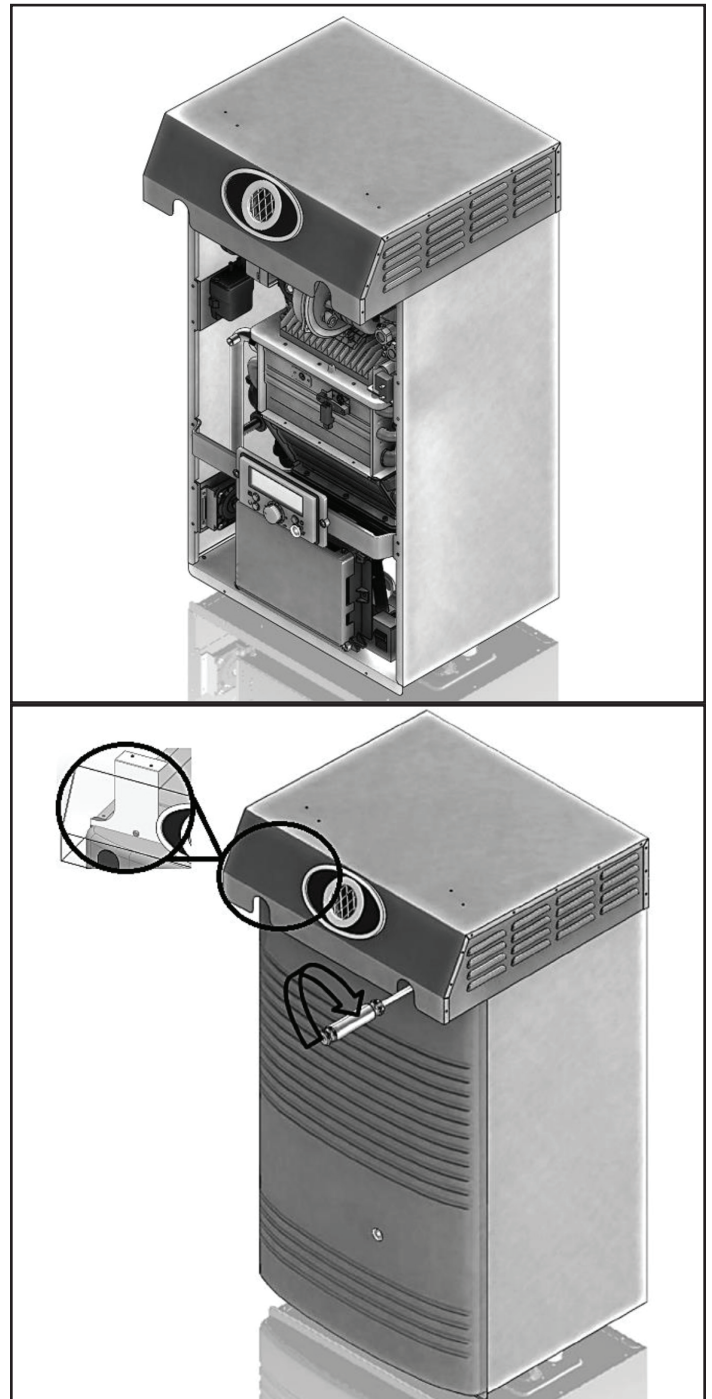

Figure 10 - Installing the Front Cover
5. Use a Phillips Head screwdriver to install the water heater front cover. See Figure 10.